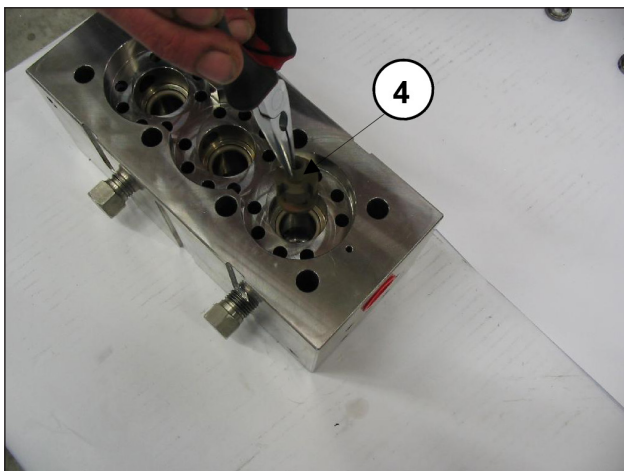
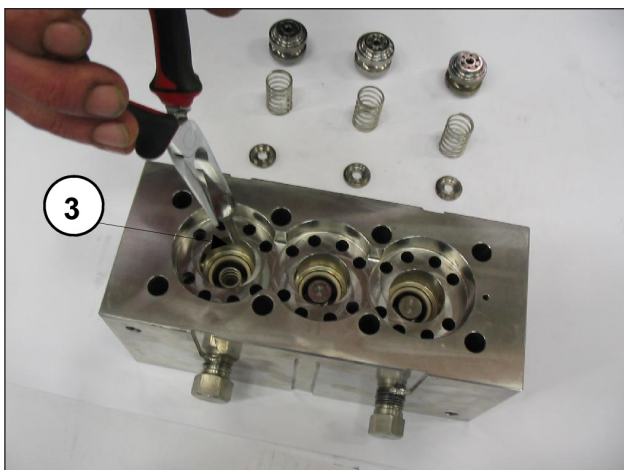

Fig. 44
Fig. 45
- Extract the outlet plates ③ and their guides ④ with the springs, as shown in Fig. 44 and Fig. 45, check for wear and replace if necessary, and in any case within the times indicated in the "PREVENTIVE MAINTENANCE" table of chapter 11 in the **Use and maintenance manual**.